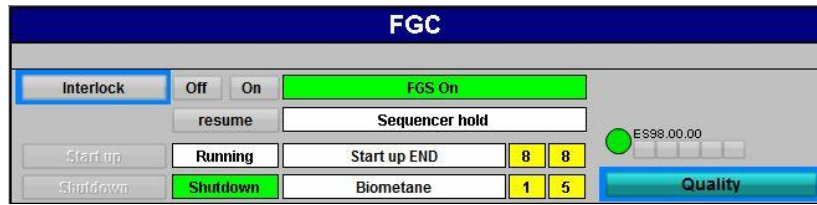

Figure 7.24: Assemblies Screen "BUP – Overview" (BUP - Übersicht) - Frame FGS
C.f. **Figure 7.24: Assemblies Screen "BUP – Overview" (BUP - Übersicht) - Frame FGS**
This requires that the FGC step sequence is stopped, using the **"Stop"** (Halt) button on the overview screen, see **Figure 7.24: Assemblies Screen "BUP – Overview" (BUP - Übersicht) - Frame FGS.**
See **Figure 7.24: Assemblies Screen "BUP – Overview" (BUP - Übersicht) - Frame FGS.**